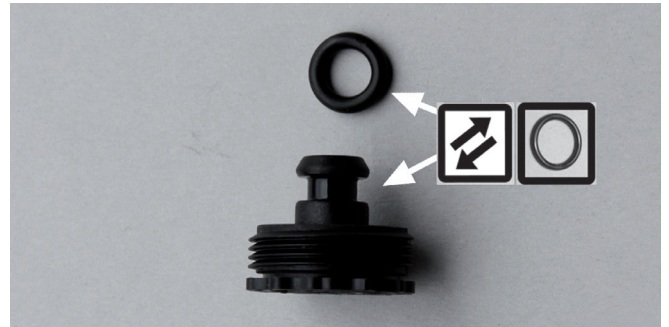

Figure 3
- Replace the O-ring on the drain screw of the oil filter housing (Figure 3).